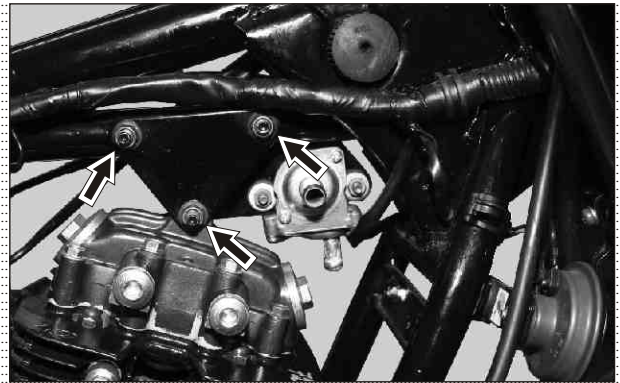

Fig. 3.42
- Remove engine assembly top mounting hexagonal flange bolt (M8x55 - 3 nos). (Fig. 3.42)